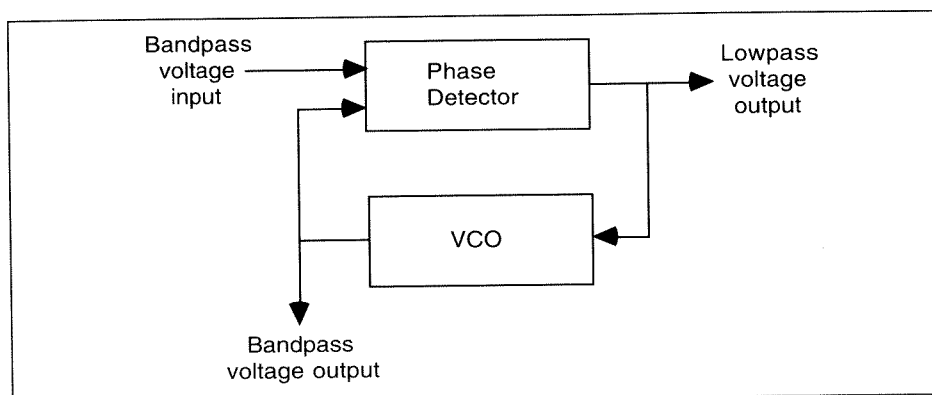
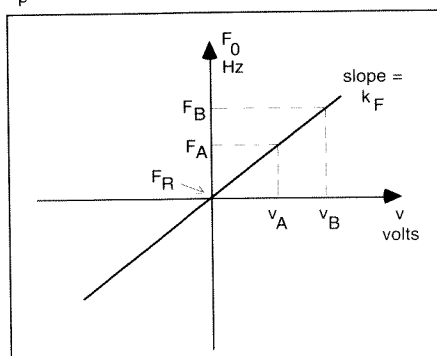
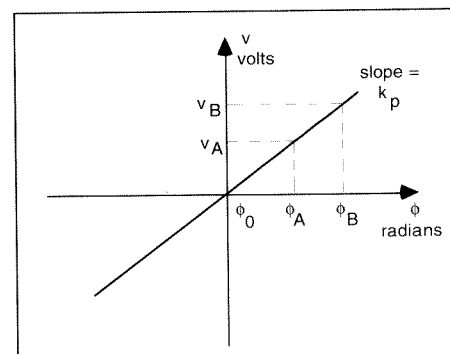

Figure 1. Block diagram of a PLL.
Figure 2. VCO voltage/frequency characteristics.
Figure 3. Phase detector characteristics.
The block diagram of a phase-locked loop (PLL) is shown as Figure 1. The phase detector consists of a voltage multiplier followed by a lowpass filter (LPF). Most PLLs are contained in systems as dedicated integrated circuits (ICs). And, most of these are configured using digital techniques; the voltage-controlled oscillator (VCO) may be a multivibrator (flip-flop), and the phase detector multiplier an XOR or XNOR gate (1). A limiter, which is commonly part of the IC, converts the analog input into a two-level voltage suitable for one input of the XOR gate. Apart from all the advantages of digital ICs (cost, reproducibility, stability, operability), this realization of PLLs provides linear characteristics of the VCO and also the phase detector (Figures 2 and 3).
A PLL is usable when the frequency of the VCO output voltage equals that of the PLL input voltage. This is called the lock condition. Suppose the frequency of the input moves from a value of f_A to a new value f_B as shown in Figure 2. To maintain lock, the frequency of the VCO output must move in a like manner. This will occur only if the VCO input voltage moves from v_A to v_B (Figure 2). This voltage must come from the phase detector, and this means that the difference in phase of its two input signals must move from ϕ_A to ϕ_B as shown in Figure 3. Clearly, the loop is not phase locked (fixed in phase). Rather, a PLL is frequency locked.
ematically for the characteristics of Figures 2 and 3 by writing: